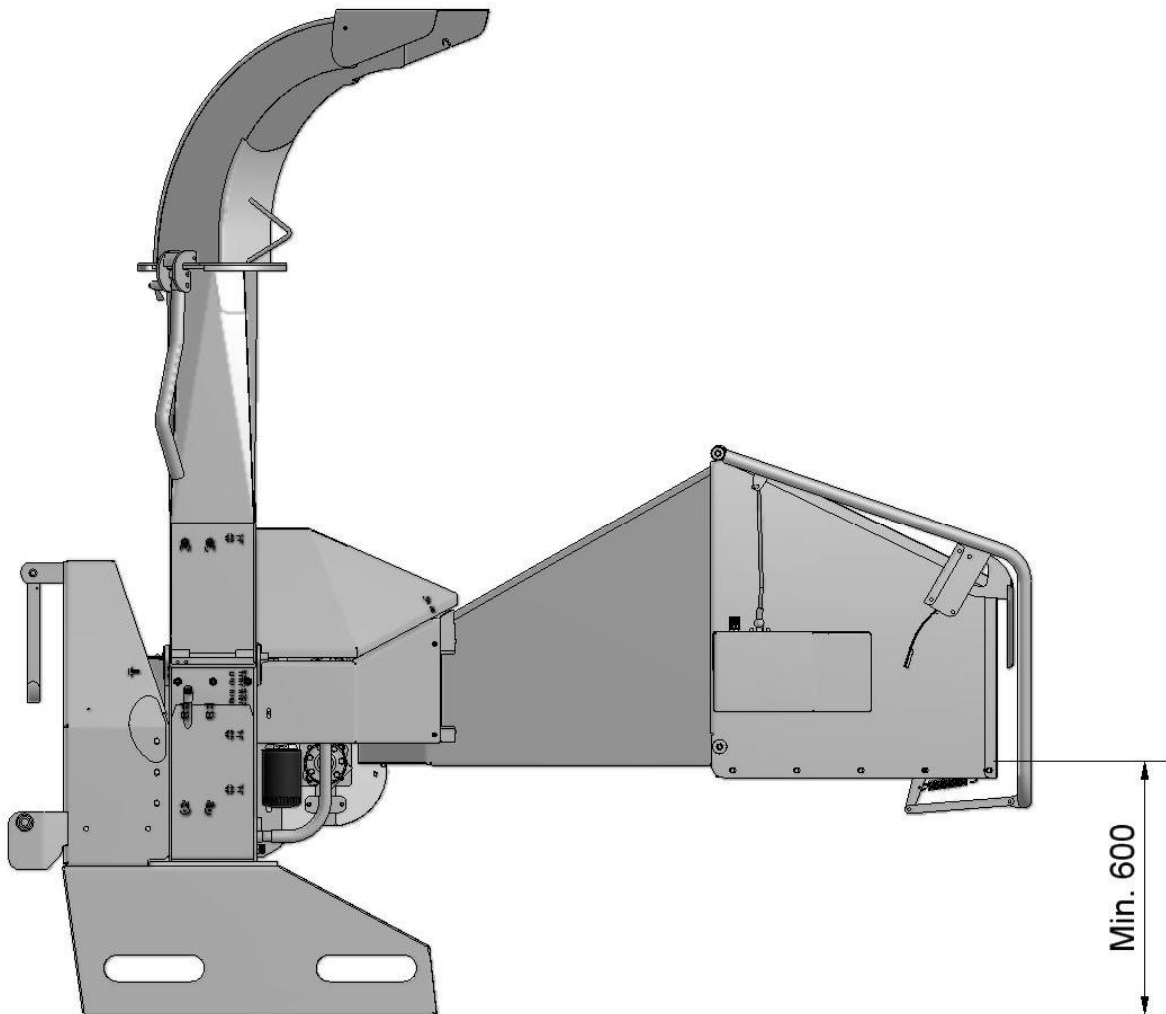

Figure 9 Minimum height over the terrain
- During operation the machine's height have to be more than 600 mm over the terrain (see fig. 9). If this height is not maintained the operation/safety handle will not work as it should, and that may lead to risks of severe personal injury due to retraction.